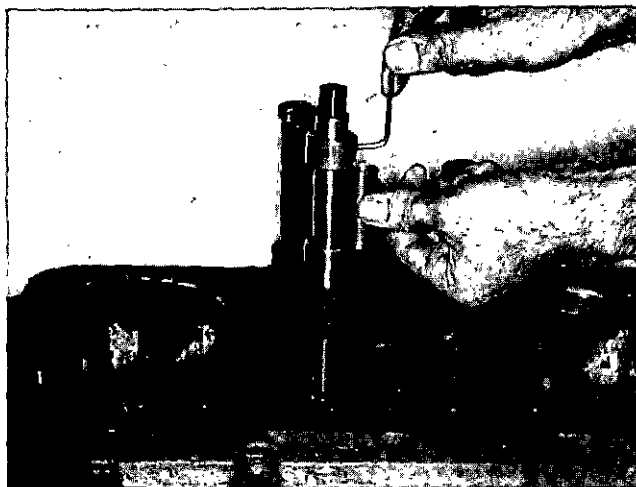

Fig. 1-35 (N101124). Adjust The Stop Collar.
7. To set the cutting depth for the special tap, put the tap in the bushing. Install the stop collar on the tap. Put a thread insert on top of the pilot bushing. Move the stop collar until it is against the thread insert, Fig. 1-35. Tighten the setscrew in the stop collar.